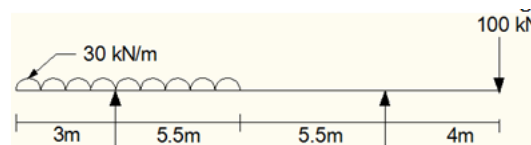

Figure 2
3. Draw the BMD and SFD for the beam as shown in Figure 2. [14M]